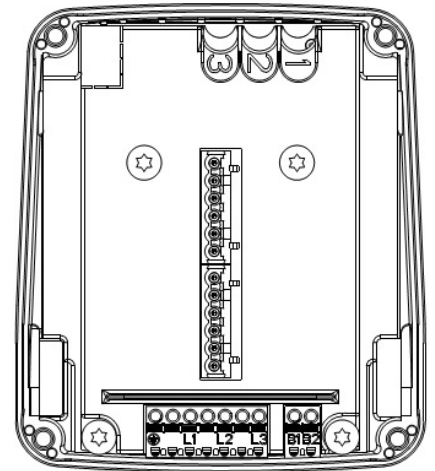

Fig 5: Electronics without speed selector
Each pump is able to cover the areas of three hydraulic characteristics. To achieve this, it has an inbuilt electric motor with three different speeds. For achieving the selected characteristics or speeds ① ② ③, the pump has a speed selector (Fig. 5). To change the speed, the upper cover has to be removed (Fig. 1 - POS. 2), then replace the speed selector to the desired speed.